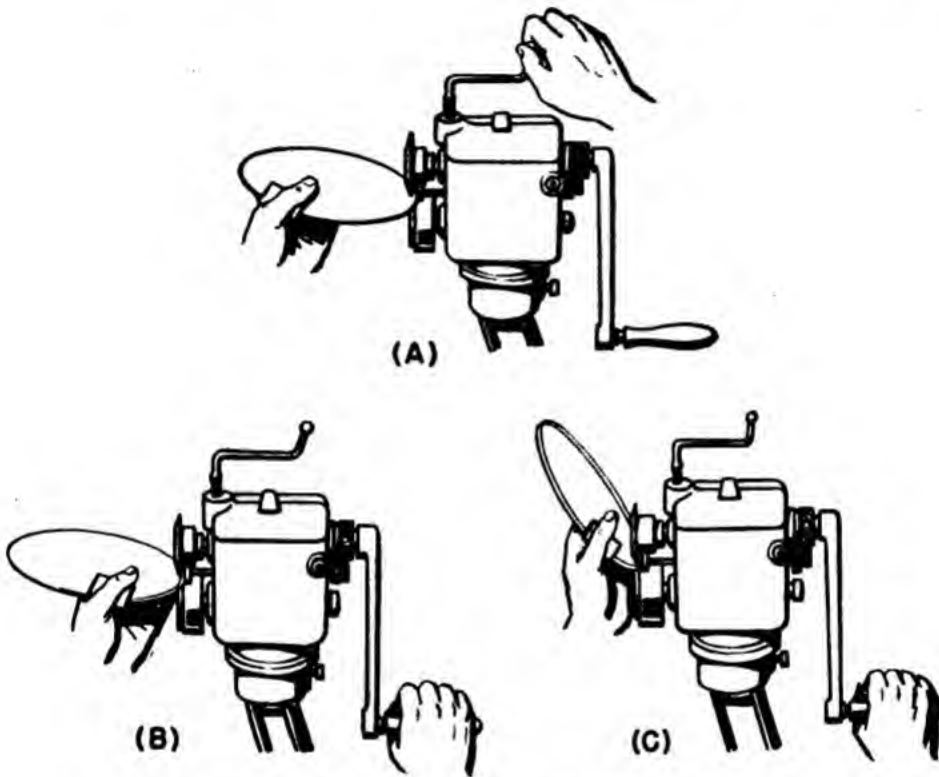

Figure 23.—Steps in making a burred edge.
edges of the lower roll. Its edge should be against the gage as in figure 23 (A). Now lower the top roll until it **JUST GRIPS** the metal disk.
After the first revolution, increase the speed at which you turn the crank. At the same time, gradually raise the disk as in figure 23 (C) until the burr is turned.